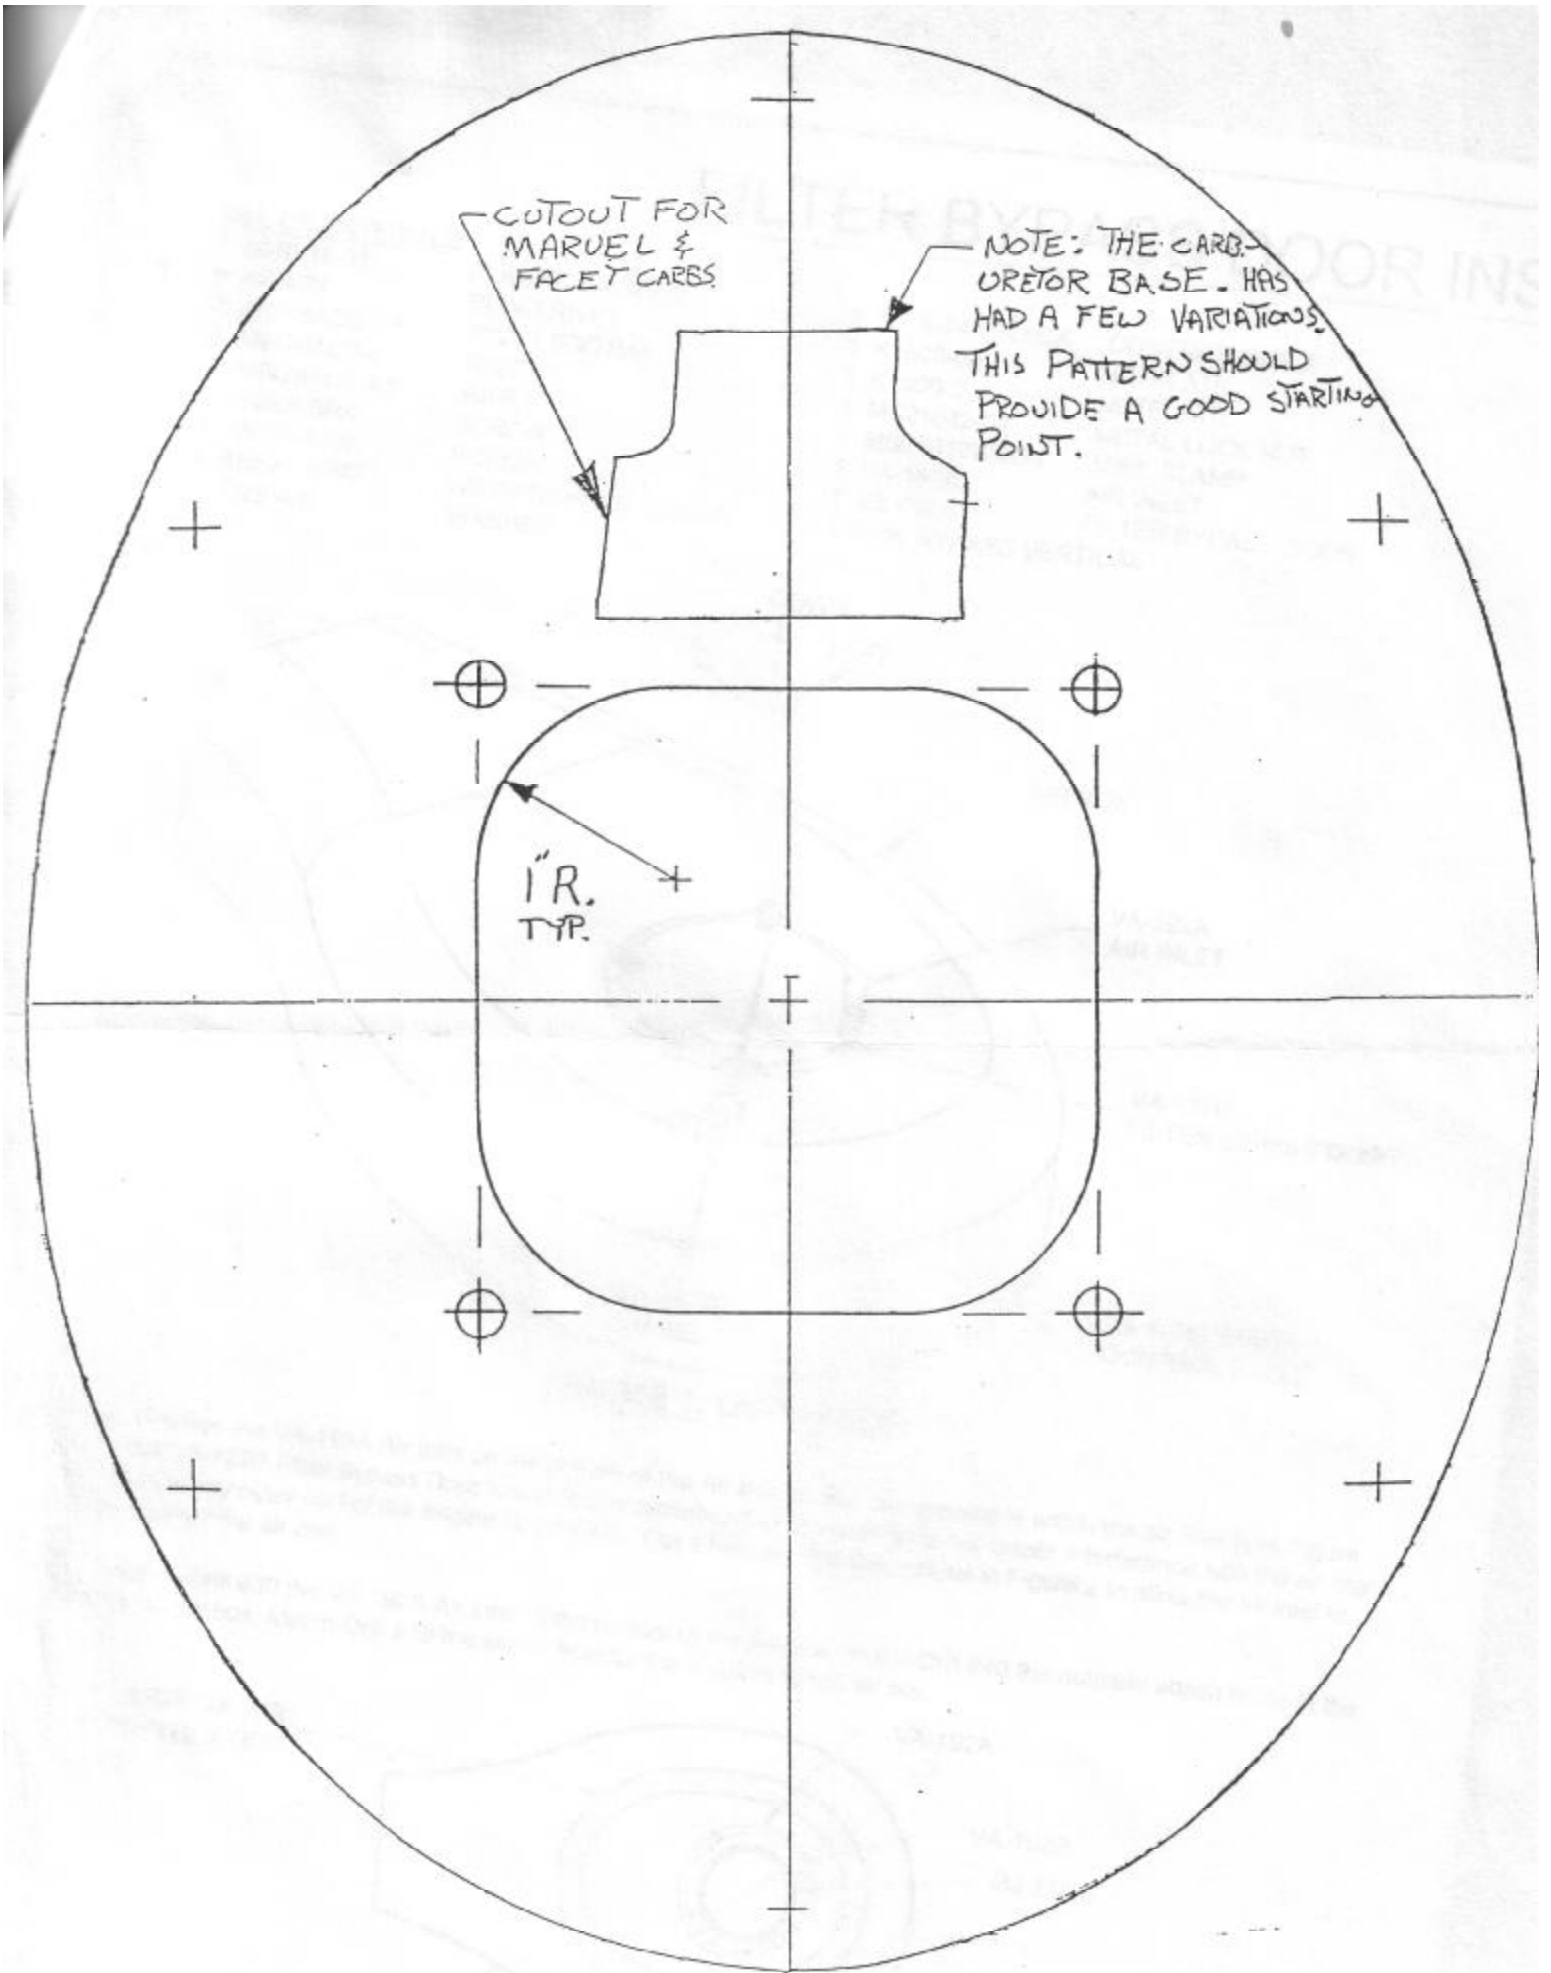

**FIG. 6****FIG. 7****FIG. 8**
- ❑ Install the completed air box and cowl. Measure the distance from the outside of the air scoop to the front of the air box (Fig. 9). Remove the cowl. The cowl air scoop intake lip must be filed or sanded down to avoid decreasing the intake area when the new fiberglass is laid. Taper the amount of material removed, very little at the front of the lip and most of the fiberglass at the rear. Shape the foam block (VA-130-1) to wedge tightly into the cowl behind the air scoop (Fig. 6). Secure the block with two or three fingertip size globs of an adhesive that can later be removed. Bondo, an automotive body filler, works well and can be chipped out when ready. Ideally, the block will be wedged in tight enough to require very little adhesive. Now cut the foam to the same depth as the air box or just a little longer. When you put the cowl back it is OK if the foam contacts the air box. Bore a large hole in the middle of the block and use the distance measured earlier to find the correct location for the cut (Fig. 6). Install the upper and lower cowl. Shape the foam to provide a smooth transition between the air scoop and the air box. A hacksaw blade works well for this. Allow room for the thickness of the fiberglass (approximately 1/16") when shaping near the air box. Leave the foam flush with the inside of the scoop.